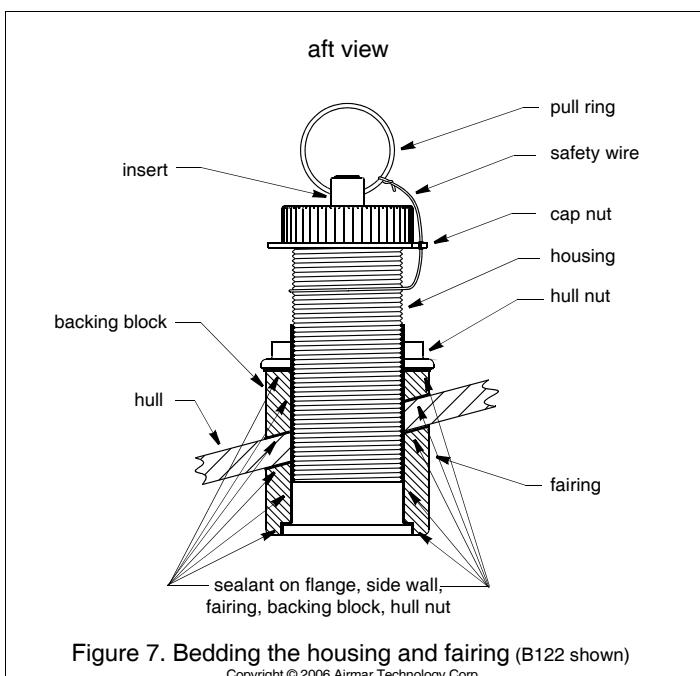

Figure 7. Bedding the housing and fairing (B122 shown)
2. Apply a 2mm (1/16") thick layer of marine sealant around the flange of the housing that will contact the fairing and up the sidewall of the housing (see Figure 7). *The sealant must extend 6mm (1/4") higher than the combined thickness of the fairing, hull, backing block, and the hull nut.* This will ensure there is sealant in the threads to seal the hull and to hold the hull nut securely in place.